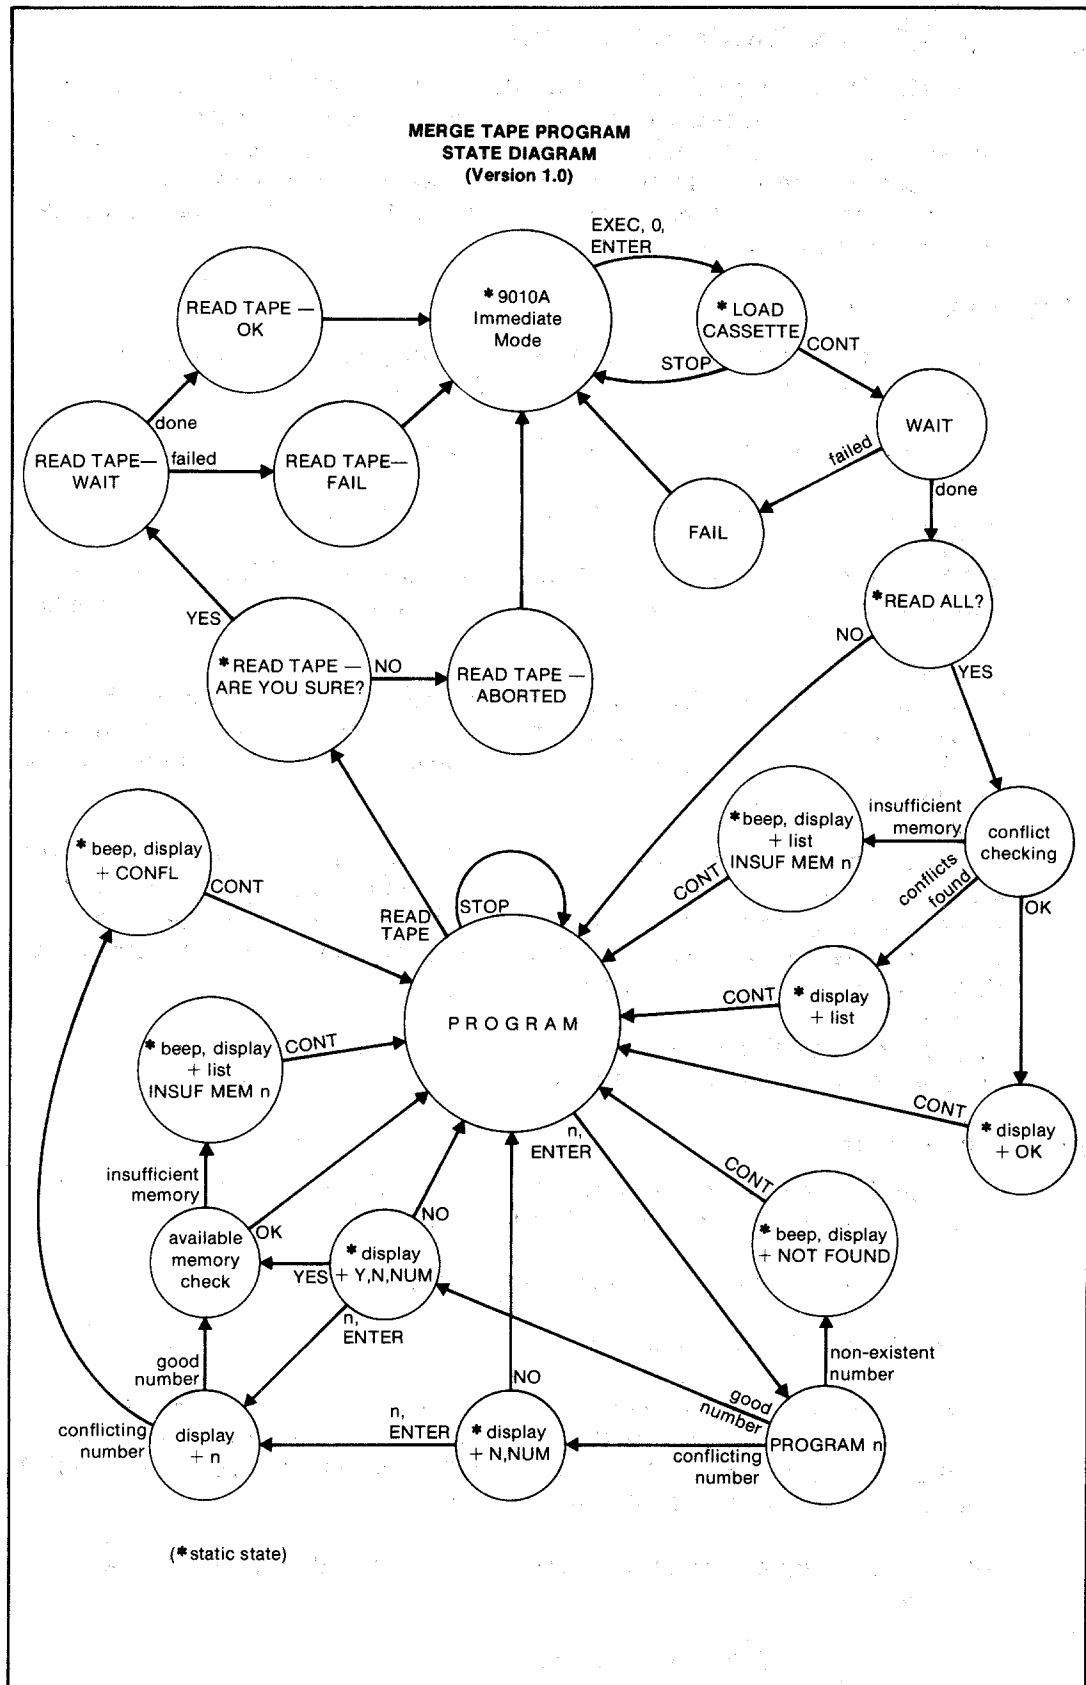

Figure 2-1. Merge Tape Program State Diagram (Version 1.0)
To run the Merge Tape program, press EXEC 0 ENTER on the 9010A. The 9010A will then display (C)FLUKE VER-n.n LOAD CASSETTE. To determine the current program state, refer to Figure 2-1.